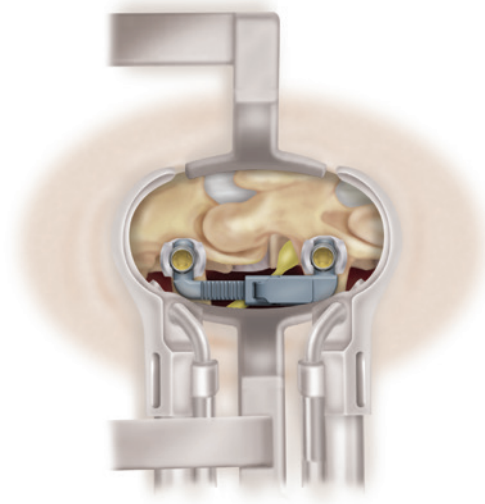

Figure 3b
- 5.5/6.0mm (6640019) (Figure 3b).